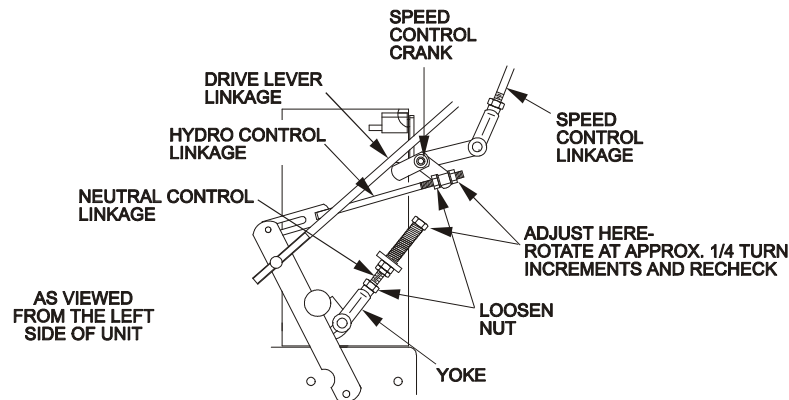

FIGURE 18
2. Move the speed control lever (located on the console) to the full forward position and check the orientation of the tabs on the ends of the speed control crank (Figure 18). These tabs should be pointing straight down at the 6 o'clock position or slightly forward. Adjust the threaded yoke at the bottom of the speed control linkage (See Figure 18) until the tabs are positioned correctly.
4. Loosen the nut against the neutral control linkage yoke as shown in Figure 18.
2. Loosen the front nut on **left** hydro control linkage as shown in Figure 18. Turn the rear control linkage adjusting nut counter-clockwise until wheel rotates forward. Turn the rear nut of left control linkage clockwise 1/4 of a turn at a time, stopping to move the speed control forward and back to neutral, until left wheel stops rotating forward.